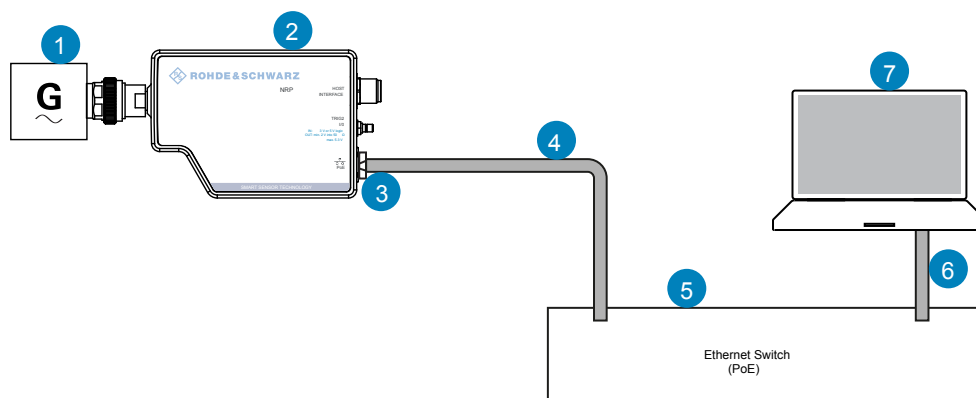

Figure 8-1: Configuration with the WebGUI
- Connect the cables as shown in Figure 8-1.